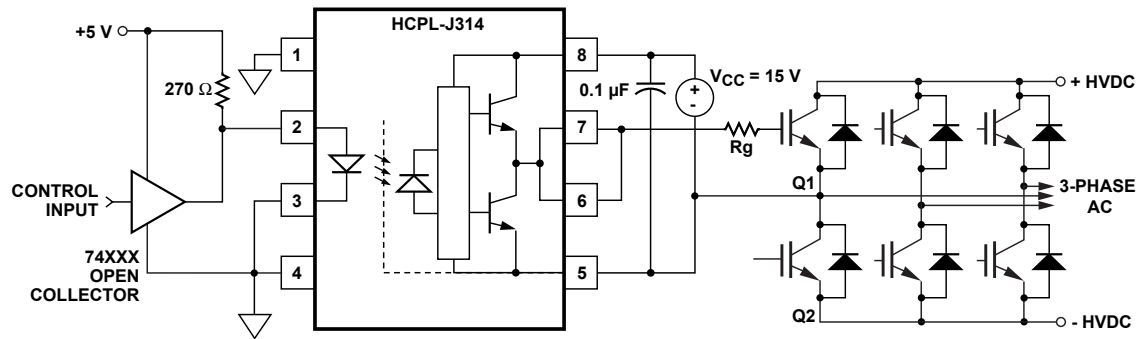
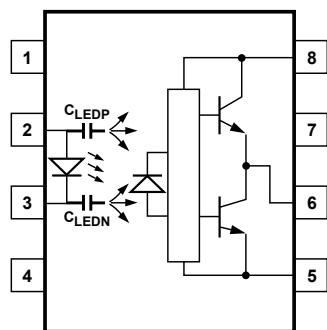
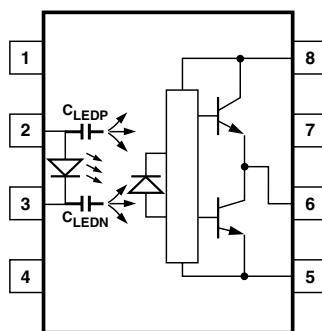
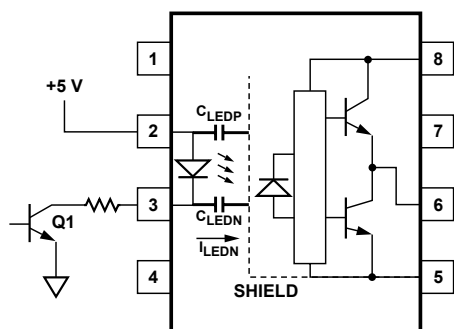

Figure 19. Recommended LED drive and application circuit for HCPL-J314.
Figure 21. Optocoupler input to output capacitance model for unshielded optocouplers.
Figure 22. Optocoupler input to output capacitance model for shielded optocouplers.
Figure 24. Not recommended open collector drive circuit.
To keep the IGBT firmly off, the HCPL-J314 has a very low maximum V_{OL} specification of 1.0 V. Minimizing R_g and the lead inductance from the HCPL-J314 to the IGBT gate and emitter (possibly by mounting the HCPL-J314 on a small PC board directly above the IGBT) can eliminate the need for negative IGBT gate drive in many applications as shown in Figure 19. Care should be taken with such a PC board design to avoid routing the IGBT collector or
Step 1: Calculate R_g minimum from the I_{OL} peak specification. The IGBT and R_g in Figure 19 can be analyzed as a simple RC circuit with a voltage supplied by the HCPL-J314.
where $K_{ICC} \cdot Q_g \cdot f$ is the increase in I_{CC} due to switching and K_{ICC} is a constant of 0.001 mA/(nC*kHz). For the circuit in Figure 19 with I_F (worst case) = 10 mA, $R_g = 32\ \Omega$, Max Duty Cycle = 80%, $Q_g = 100\text{ nC}$, $f = 20\text{ kHz}$ and $T_{AMAX} = 85^\circ\text{C}$:
Without a detector shield, the dominant cause of optocoupler CMR failure is capacitive coupling from the input side of the optocoupler, through the package, to the detector IC as shown in Figure 21. The HCPL-J314 improves CMR performance by using a detector IC with an optically transparent Faraday shield, which diverts the capacitively coupled current away from the sensitive IC circuitry. However, this shield does not eliminate the capacitive coupling between the LED and optocoupler pins 5-8 as shown in Figure 22. This capacitive coupling causes perturbations in the LED current during common mode transients and becomes the major source of CMR failures for a shielded optocoupler. The main design objective of a high CMR LED drive circuit becomes keeping the LED in the proper state (on or off) during common mode transients. For example, the recommended application circuit (Figure 19), can achieve 10 kV/μs CMR while minimizing component complexity.
The open collector drive circuit, shown in Figure 24, can not keep the LED off during a $+dV_{CM}/dt$ transient, since all the current flowing through C_{LEDN} must be supplied by the LED, and it is not recommended for applications requiring ultra high CMR1 performance. The alternative drive circuit which like the recommended application circuit (Figure 19), does achieve ultra high CMR performance by shunting the LED in the off state.